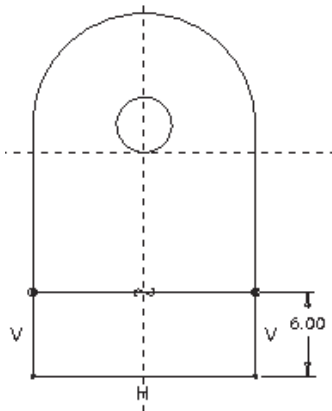

Figure 5-59 Sketch for the second feature
- Create the second extrude feature that is at the bottom of the base feature, refer to Figures 5-59 through 5-62.
1. Draw the sketch, as shown in Figure 5-59.
2. The sketch is automatically constrained and some weak dimensions are assigned to it. Add the required constraints and modify the weak dimensions, as shown in Figure 5-59.